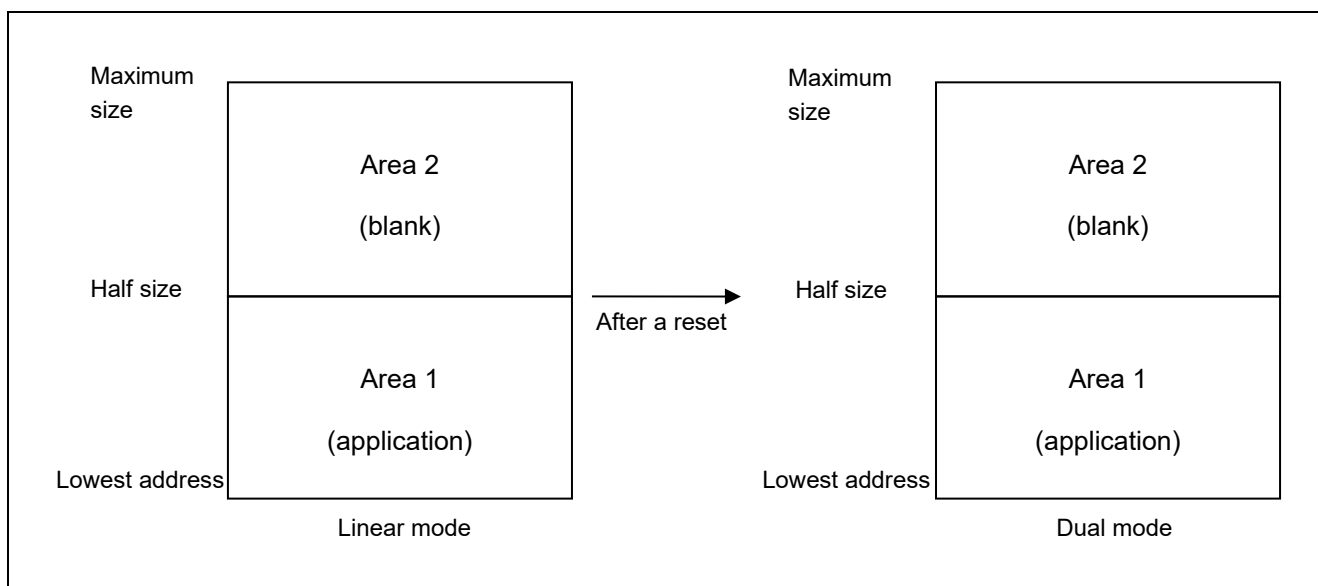

Figure 13.1 Programming an Application for Use in Dual Mode in Linear Mode
(1) Programming an application at the same time as switching to dual mode
- Condition: Do not program area 2 in Figure 13.1.
2. Program the program file for the option-setting memory that specifies the dual mode and the program file (application) for area 1 in Figure 13.1.
Remark: When switching from linear mode to dual mode is to proceed, it is recommended that area 2 in Figure 13.1 be blank.